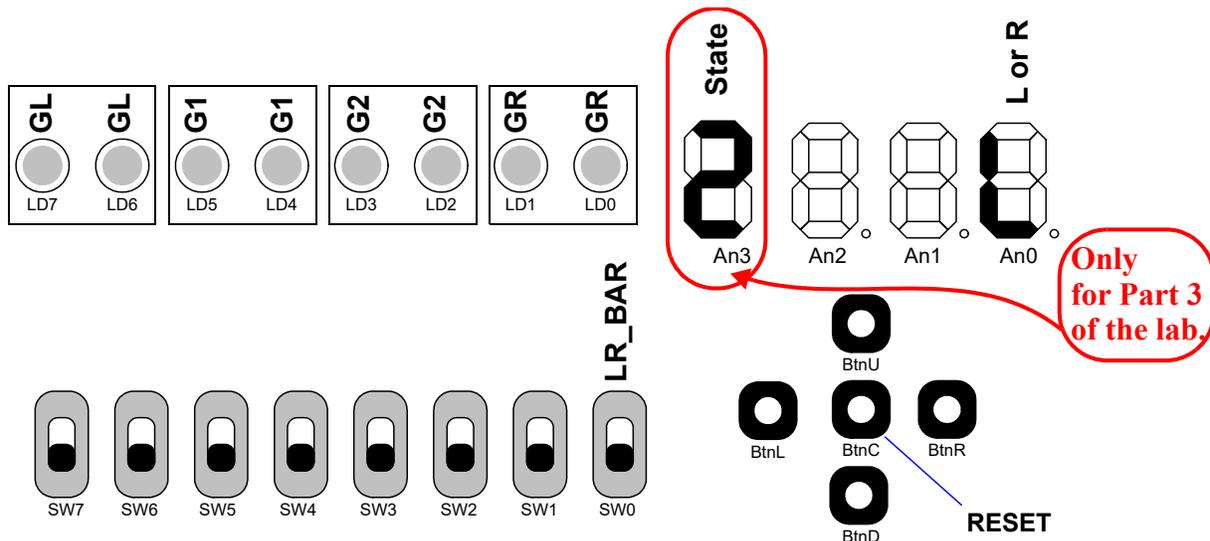

Fig 3: Diagram of the I/O resources on the Nexys 3 board for the simple “top” design (Parts 2 &3)
Figure 3 shows the I/O resources you will use for this lab. For the simple top we will use one of the switches (SW0) to exercise the left/right detour selection (i.e., to produce the **LR_BAR** signal) and the eight LEDs (LD7 through LD0, in 4 pairs) to indicate detour arrows growing left or growing right. Also one of the seven segment LEDs will show “**R**” or “**L**” depending on the position of the **LR_BAR** switch. Since “**R**” can not be displayed on a SSD we show “**A**” (8) which is close to “**R**” in shape. Push button **BtnC** generates **RESET**.